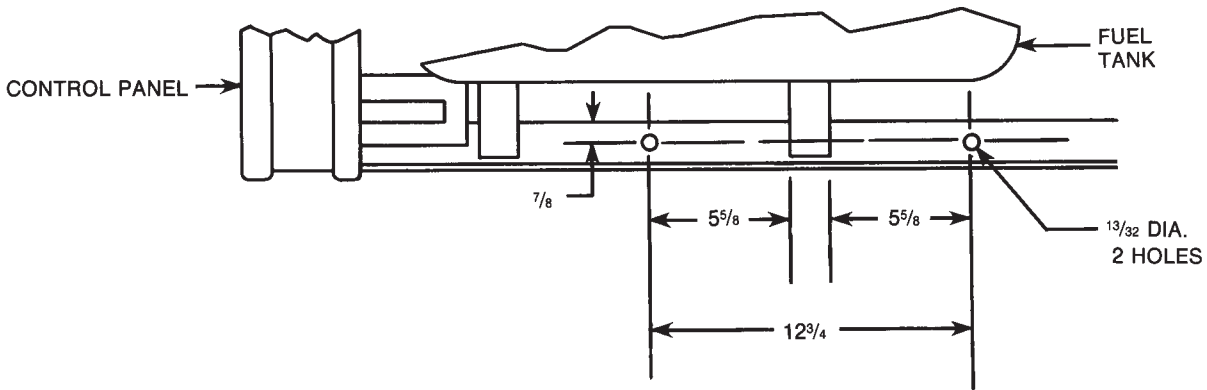

FIGURE 8 – Fuel Tank as Viewed from Top.
2. Drill two holes in fuel tank rail opposite output terminals as in Figure 8, if holes are not in unit.